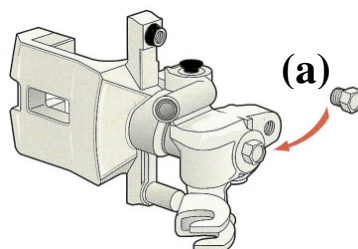

Figure 5
- ✓ Screw in and tighten screw plug (1) – **Fig. 5**.